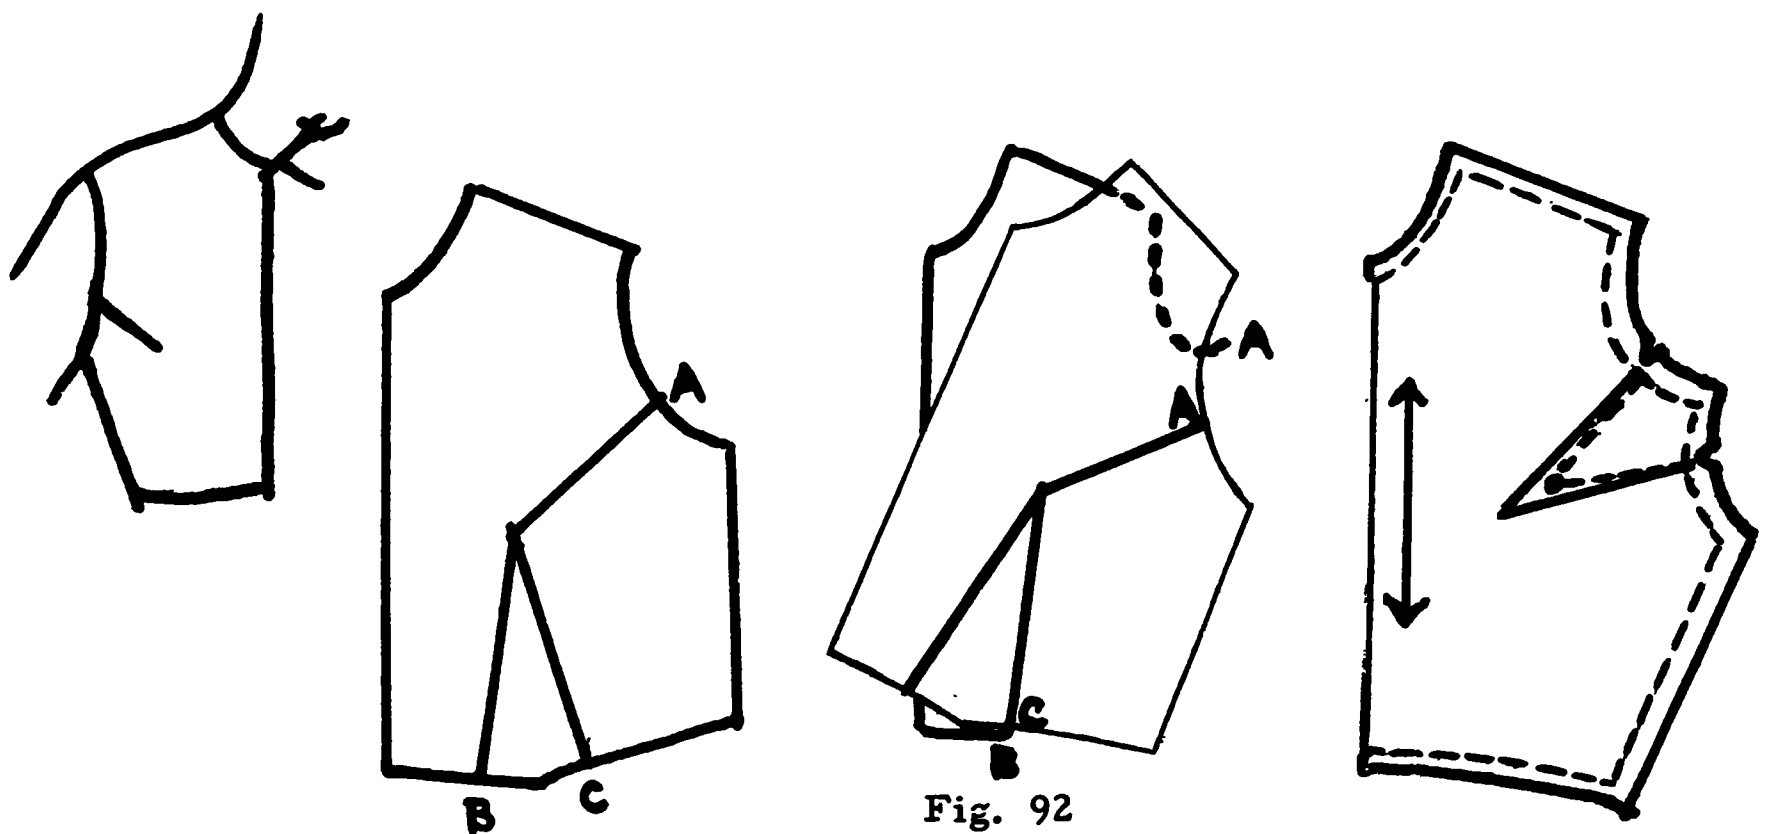

Fig. 92
B. Shift basic dart to the armhole position (Fig. 92).